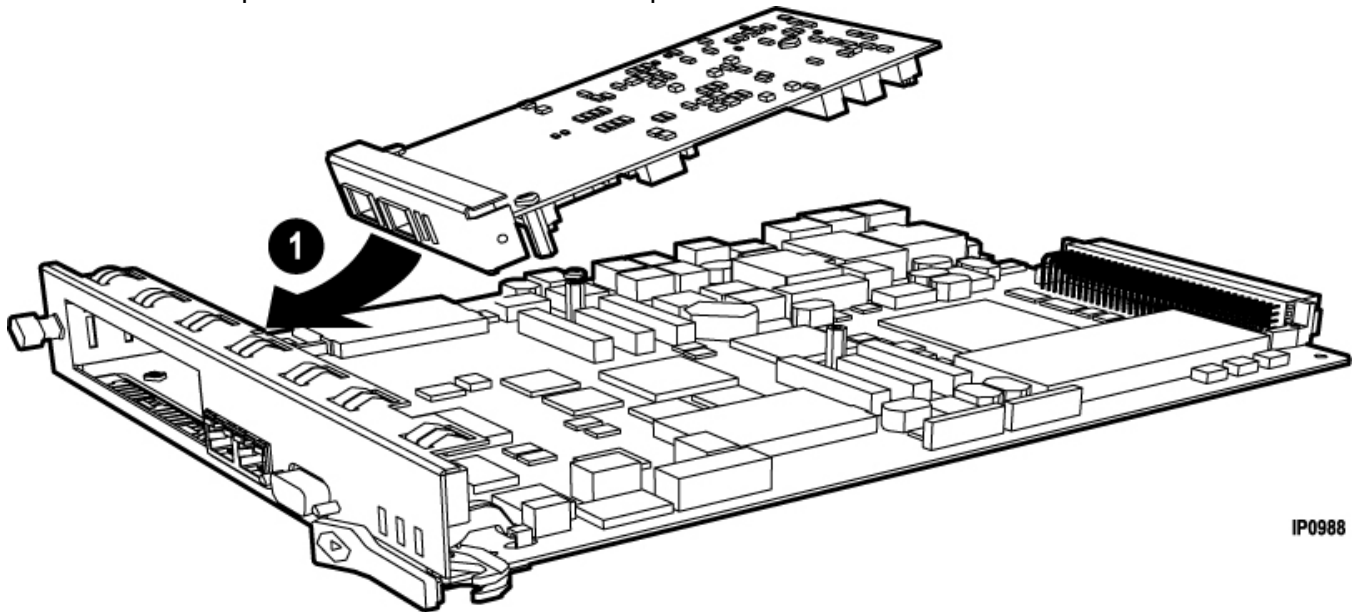
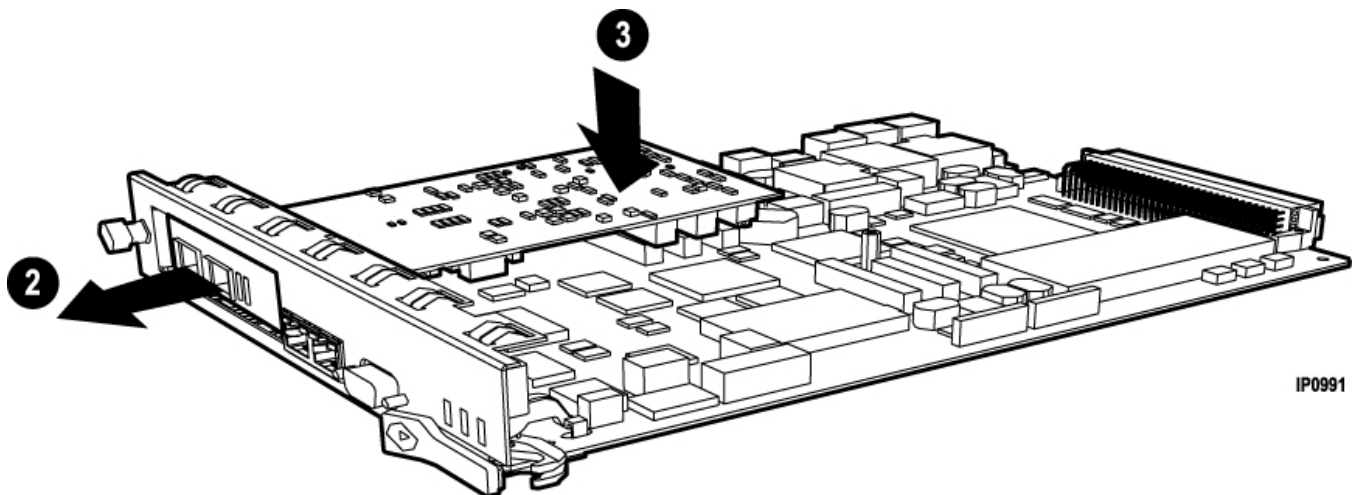

Figure 7.6: Position module at an angle (AX)
Figure 7.7: Slide in and seat module
6. Carefully slide the MMC face plate under the lip of the controller face plate. See Figure 7.6. Do not push the MMC past the controller face plate as shown in Figure 7.7.